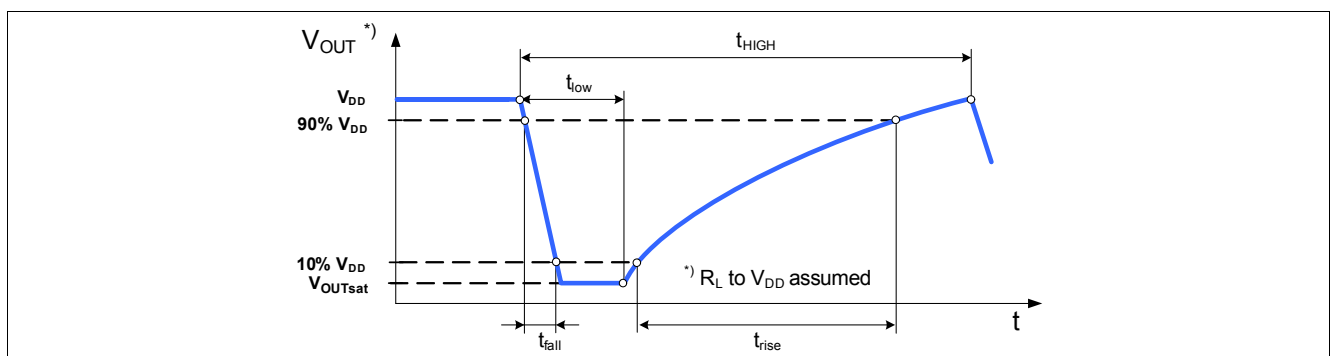

Figure 5-1 Output Characteristic
- 6) Depends on External R_L and C_L , See Figure 5-1